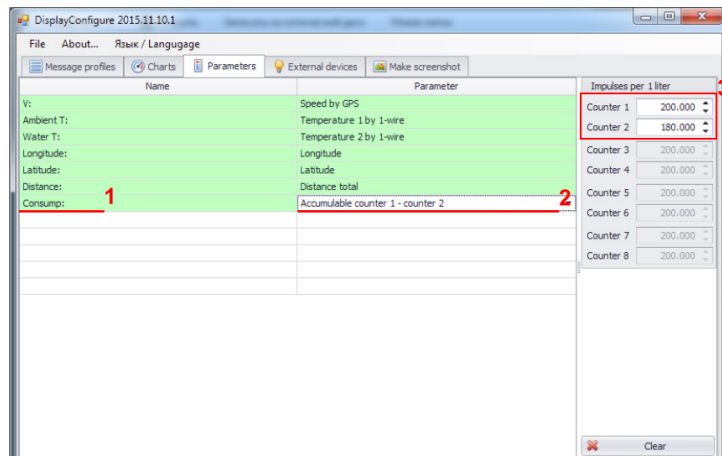

Fig.59. Parameters tab.
- enter a parameter description in the «Name» field (Fig.59, i.1) which will be displayed before the parameter value. A number of characters in the name can not exceed 10. If the «Name» field is empty, only the parameter value is displayed;
- in the «Parameter» field, select a parameter to display (Fig.59, i.2). Full list of supported parameters and their descriptions are given in the Appendix 3 to this document.
- for the Accumulable counters, which are used to indicate readings of flow meters connected to the AutoGRAPH controller's digital inputs, you also need to set up impulses per 1 liter on left panel (Fig.59, i.3) in order to convert a number of pulses to liters.